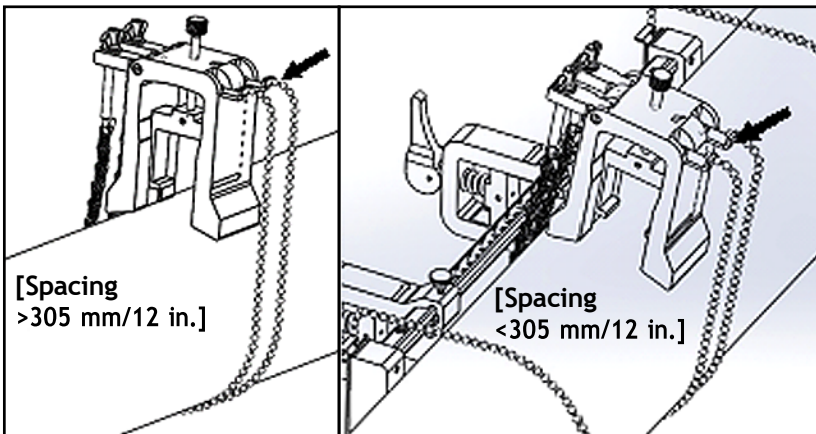

Figure 27: Yoke Chains Secured
3. Wrap the yoke chains around the pipe and secure them to the yoke bracket, as shown in Figure 27 below.